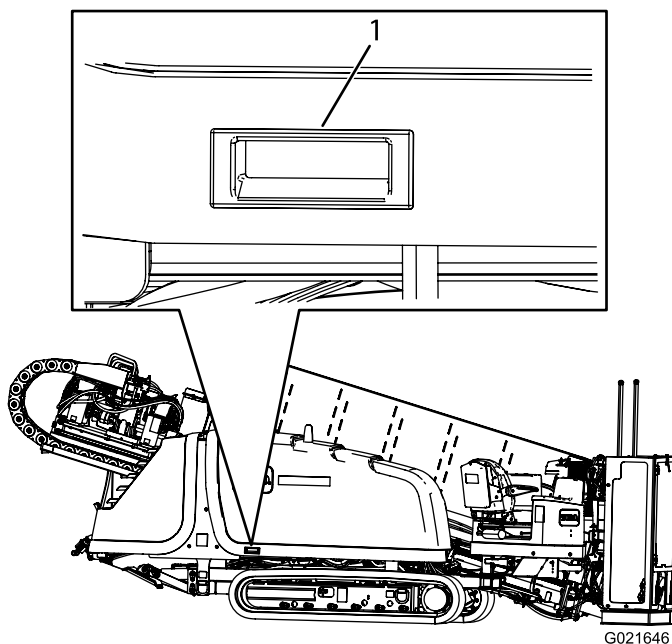

Figure 96
3. Lift up on the handle as shown in Figure 96.